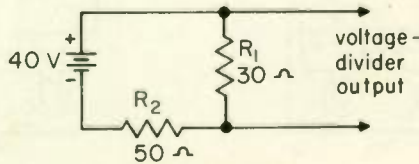

Fig. 55
19. What is the voltage-divider output in Fig. 55? Assume the current taken by the load on the voltage divider is low compared to the current through R_2 .